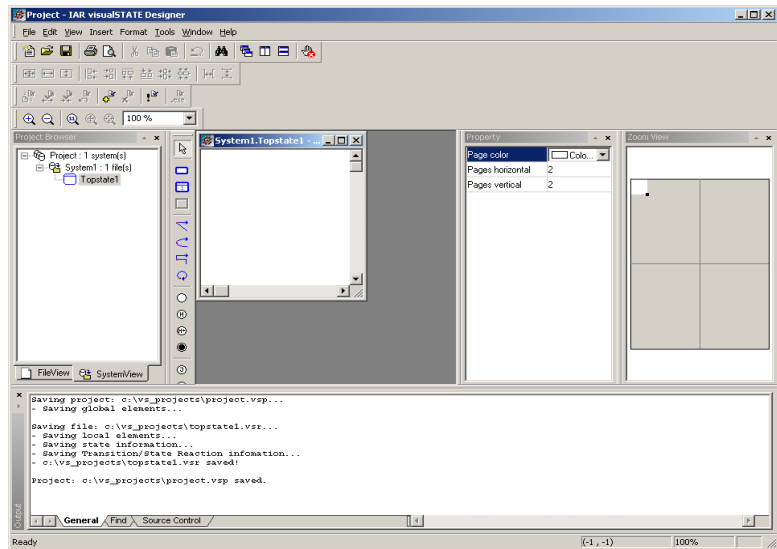

Figure 6: Designer application with newly created Project
- 4 Click **OK**. The visualSTATE Designer application will be launched with a visualSTATE Project, System and topstate. See *Figure 6*, page 13.